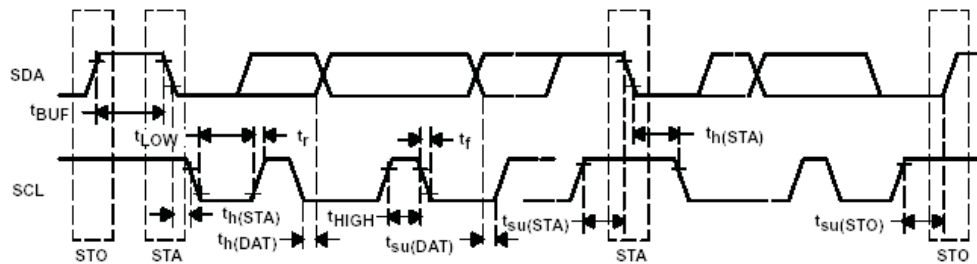

Figure 6. I²C Interface Timing Diagram
8.16 I²C Interface Timing (see Figure 6)